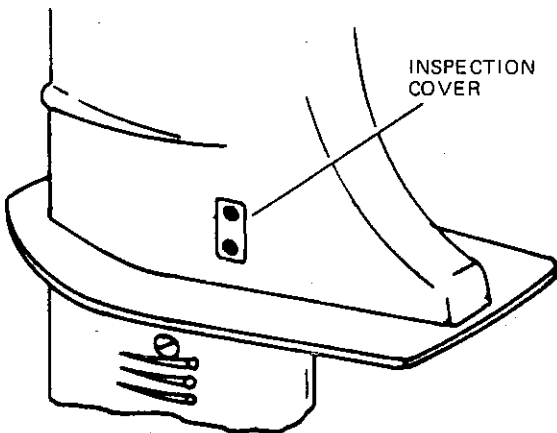

Figure 1. Remove inspection cover.
- A. Use a flat-tip screwdriver to remove the two flat-head screws holding the inspection cover. Remove the cover (Figure 1).